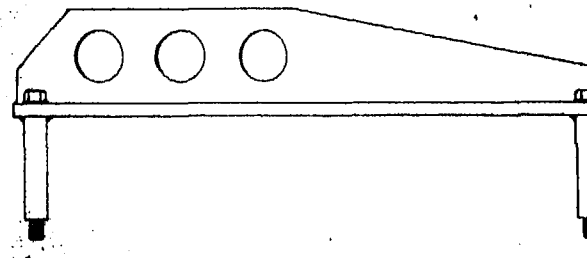

Fig. 0-2. ST-464 Lifting Fixture
**Use** Lifting Fixture (Fig. 0-2) to remove engines from chassis when rear of engine is mounted under fire wall. The tool spans four cylinders and provides three lifting points to compensate for different weight distributions